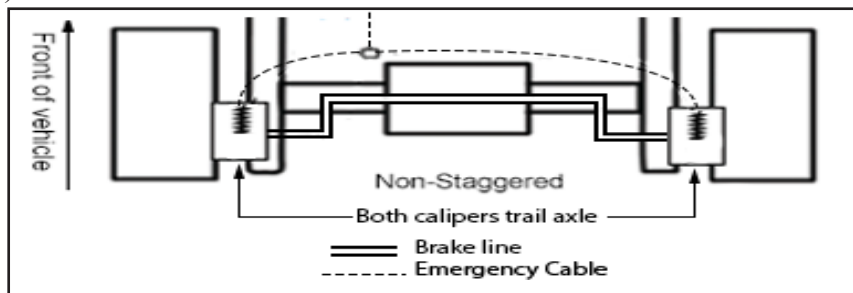

Fig. 10
27. Now insert the caliper, with the pads installed, into the caliper bracket. The bleeder screws and springs should be at the top with the caliper on the rear of the axle. The cable feeds on the top side of the caliper (Fig 10).